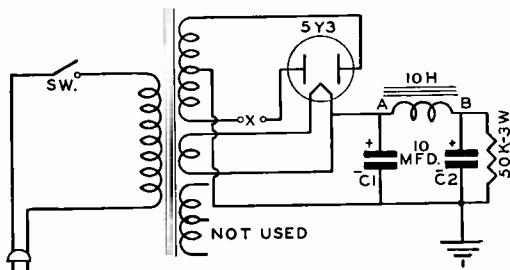

Fig. 9
Most power supply circuits take the general form of the circuit shown in Fig. 9. With this circuit, we can make modifications for condenser input, choke input, half-wave and full-wave rectification and can demonstrate the operation of an RC filter. The various wave-shapes which may be encountered under different types of operation are illustrated in Fig. 10. In all cases, the ground connection for the oscilloscope is made to B— or to ground as shown in Fig. 9. The vertical input lead is connected at either point A or B, as indicated under the illustration in Fig. 10. Either half-wave or full-wave rectification is used, as indicated in Fig.
In addition to the experiments suggested in Fig. 10, using the circuit of Fig. 9, you should also try other modifications of the filter circuit. As an example, observe the effect on the wave-shape and amplitude of the ripple when a 5000 ohm, 2 watt resistor is substituted for the 10 henry filter choke. Also try modifying the sizes of the filter condensers and the load on the power supply circuit.
Fig. 10. (A) Half-wave rectification—choke input ( $C_1$  disconnected). Observed at point A in Fig. 9. (B) Same as (A), except full-wave rectification. (C) Same as (B), except full-wave unbalanced rectification (15 K, 2-watt resistor in series with one rectifier plate lead). (D) Half-wave rectification—choke input ( $C_1$  disconnected). Observed at point B, Fig. 9. Full-wave is similar except for number of cycles and greater degree of rounding. (E) Full-wave rectification—condenser input filter. Observed at point A, Fig. 9. (F) Full-wave rectification—condenser input. Observed at point B, Fig. 9.